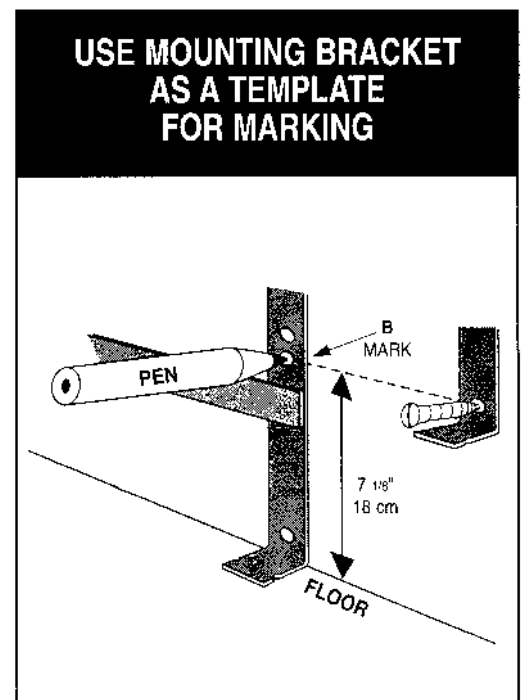

Figure 1B
- 2- Use the mounting bracket as a template by holding it against the wall flush to the floor. Use the B mark to locate the bottom fasteners (Figure 1B).